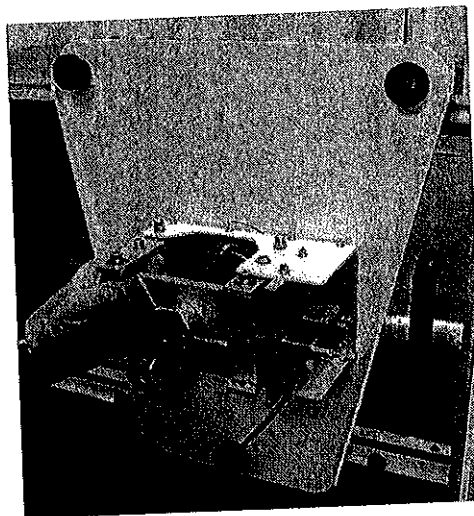

Figure 6 Use the Thumbscrews and Washers to Fix the Balance Assembly to the Back Plate
5. Place the Balance Assembly onto the back plate and use the smaller thumbscrews and washers (supplied) to fix it onto the back plate. For drag measurement, fit the assembly so that the load cell is to the right (see Figure 6). For lift measurement, rotate and fix the assembly so that the load cell